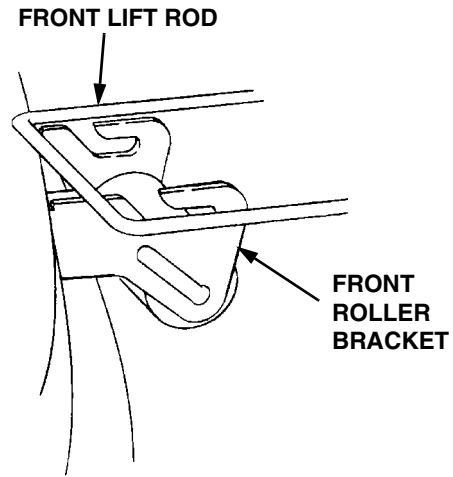

Figure 41
7. Raise the tractor implement lift handle to its highest setting, Slide the mower deck forward, so the front lift rod rests to the rear of, and free of, the front roller bracket slots of the deck (See Figure 41).